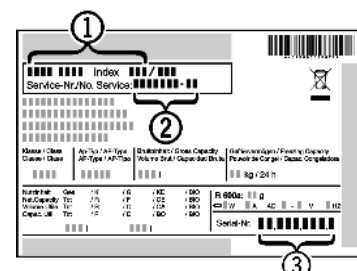

Fig. 5
- ▶ Read the appliance designation Fig. 5 (1), service No. Fig. 5 (2) and serial No. Fig. 5 (3) off the type plate located inside the appliance on the left-hand side.
- ▶ Notify the customer service, specifying the fault, appliance designation *Fig. 5 (1)*, service No. *Fig. 5 (2)* and serial No. *Fig. 5 (3)*.